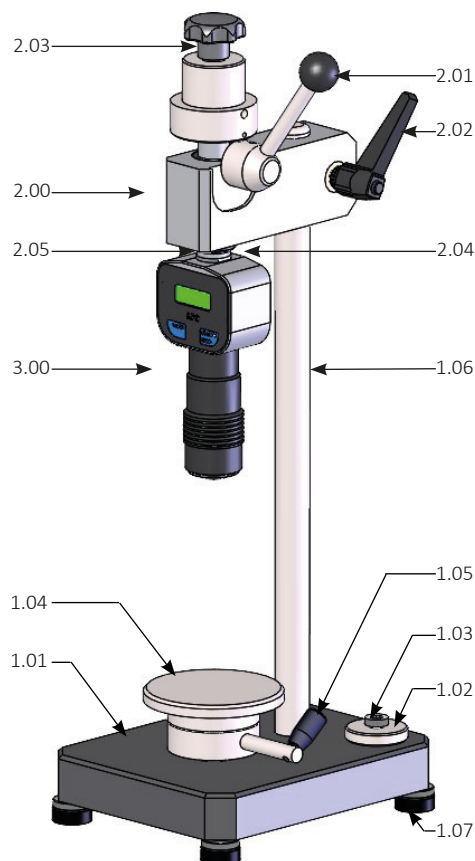

Fig. 1 Overview of BS 61 II
- › Level the BS 61 II in a stable manner by turning the foot screws (1.07, Fig. 1), with the knurled nuts loosened. Possibly place a bubble indicator on the base plate while leveling.
- › Place the mounting device (2.00, Fig. 1) onto the column (1.06, Fig. 1) and clamp it with the clamping lever (2.02, Fig. 1) in the upper part of the column.